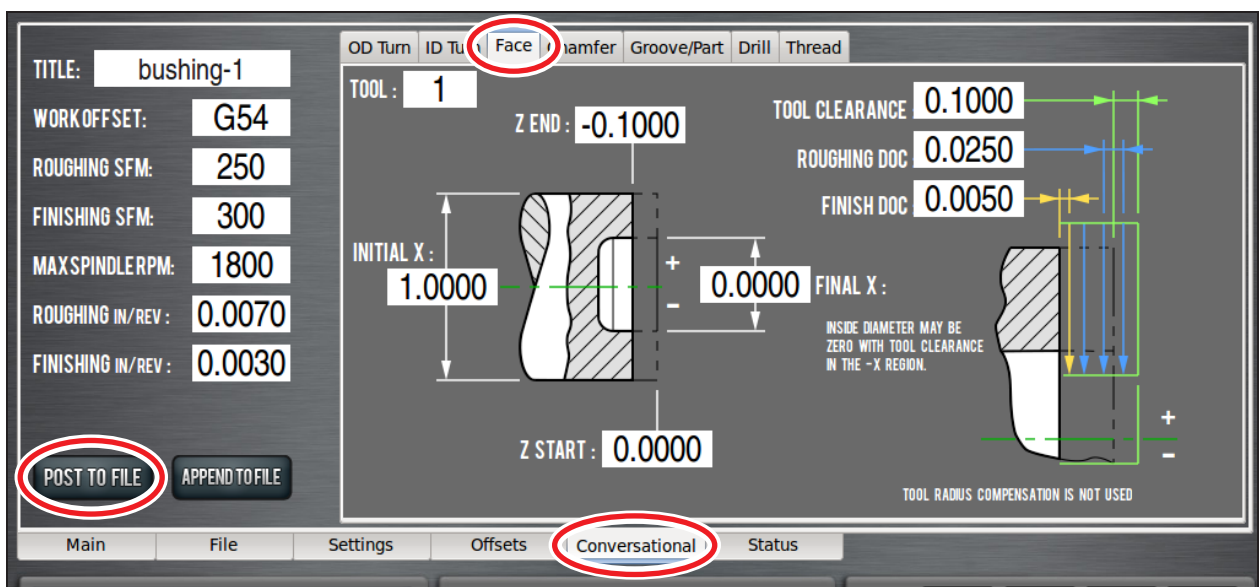

Figure 4.23
2. Click *Face* tab on the *Conversational* screen (see **Figure 4.23**) and enter values shown in **Figure 4.23** to generate code that faces the part back to Z of -0.100".
3. Click *Post to File* to save G-code (see **Figure 4.23**).